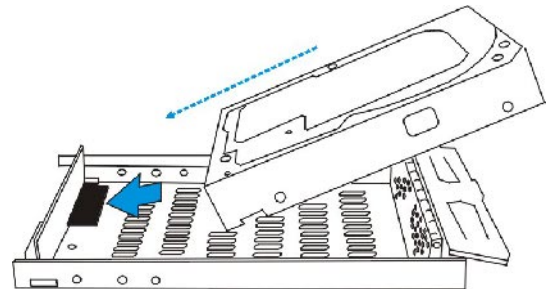

Figure 2: Insert the SATA Drive.
Step 2: Insert the hard drive. Hold the drive at an angle and place it into the drive tray. (See *Figure 2*)